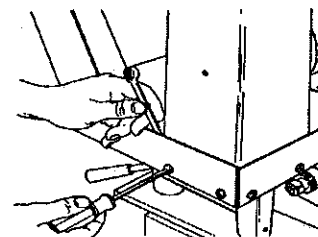

Fig.A-13
20. After you have all the legs, leg braces, pulley and belt guard and hardware installed as described above, securely tighten all the nuts and screws which attach the legs (5) to the base (11). Then tighten all the nuts and screws attaching the leg braces (6 and 7) to the legs (5). See Fig.A-13.